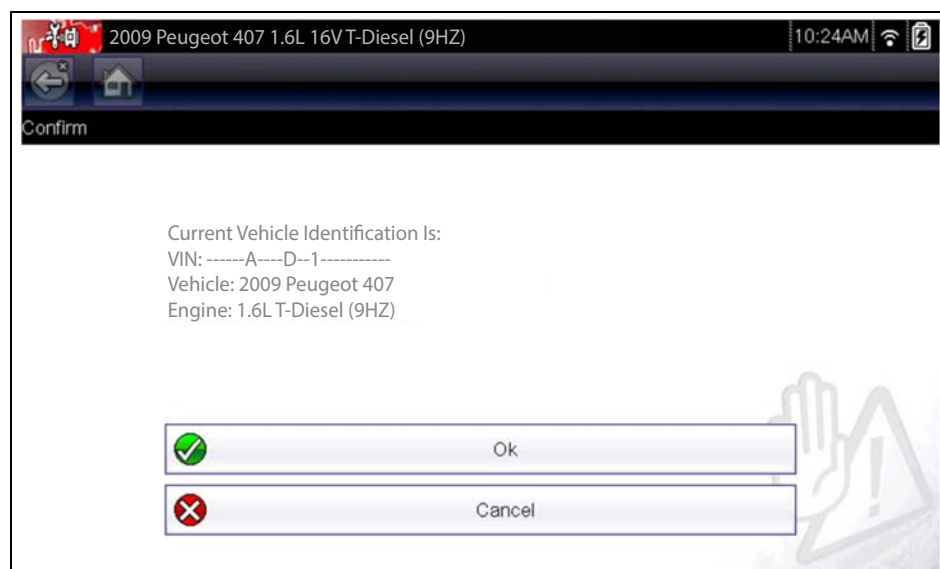

Figure 4-3 Vehicle confirmation screen
7. The vehicle confirmation screen displays (Figure 4-3).
8. Select **OK** to confirm the vehicle (Figure 4-3).